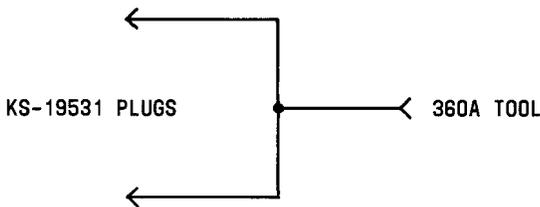

Fig. 2—Wye Adapter
Note 1: ◆Wye adapters (two required) are locally constructed test cords (see Fig. 2). Each cord is made with 2-pin plugs, such as KS-19531, and one female connector, such as the 360A tool. Insulated wire, 18-gauge or 20-gauge, may be used to join the connectors. Each lead from the Variac should be terminated
(10) Connect one Wye adapter (see Fig. 2) at the TP1 test jack and a second Wye adapter at the TP2 test jack on the MONITOR COML (CP1) circuit pack. The Wye adapter provides connections at each test jack for one voltmeter lead and one lead from the Variac.